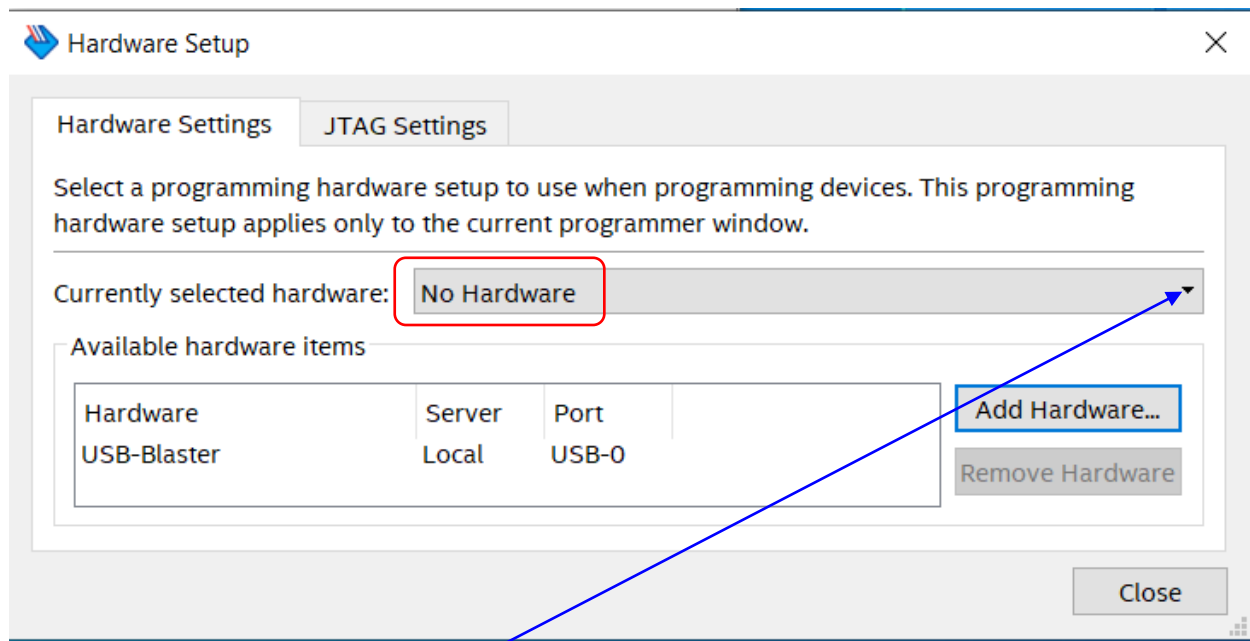

Figure 3. Hardware Setup window
- Click on the “**Hardware Setup**” button to open the “Hardware Setup” window shown in Figure 3: